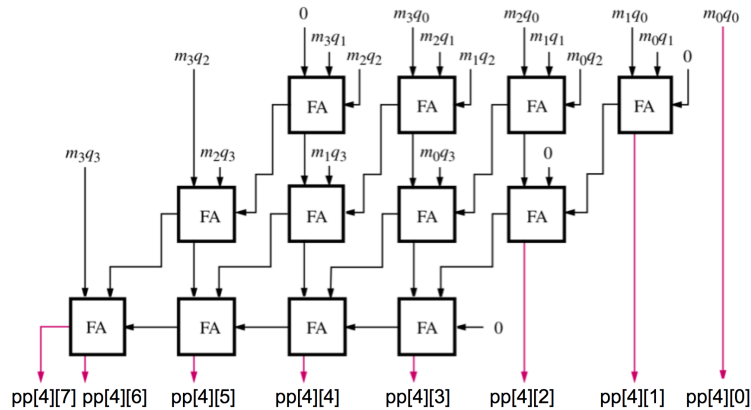

Figure 1: 4-bit Multiplier Carry Save Array (Figure from pg. 354, "Computer Organization and Embedded Systems", 6th ed., Hamacher, Vranesic, Zaky and Manjikian)
A simple multiplier performs multiplication in hardware in a manner similar to performing it by hand. This type of multiplier is called an *Array Multiplier*. However, array multipliers are quite slow. Faster multipliers can compute a product of two numbers more quickly. For Part I you will design an **unsigned** 8x8 *Carry Save Multiplier* (CSM). Figure 1 shows an example of 4-bit carry save multiplier architecture.
Figure 1 shows the multiplication of the quotient q_0-q_3 by the multiplicand m_0-m_3 to produce the 8-bit result, p_0-p_7 . This 4x4 multiplier uses 3 rows of full-adders (FA) while your multiplier should consist of 7 rows of 8 full-adders each. The input to and output from each adder is referred to as a 'partial product (pp)'. For the 4x4 multiplier shown in Figure 1, the final output is given as $pp[4][7:0]$.